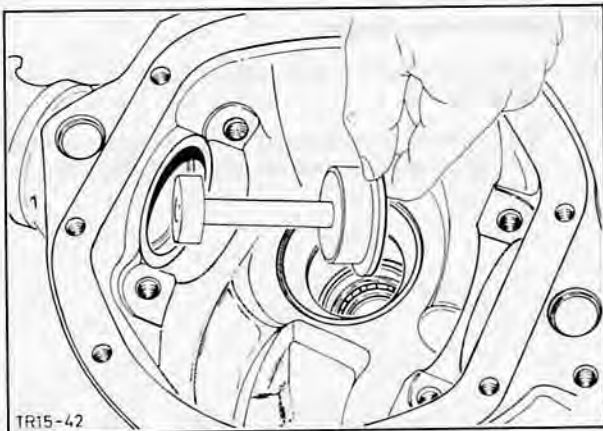

Fig. 81. Insert thrust buttons
32. Insert thrust buttons in axle tube, Fig. 81, and insert differential assembly with bearing cups. Fit bearing caps (numbers match) and tighten bolts. Turn differential train several times and re-check value at spindle with torque wrench—5 Nm (0,5 mkp). Secure dial indicator to axle casing so that plunger bears on crown wheel boss.